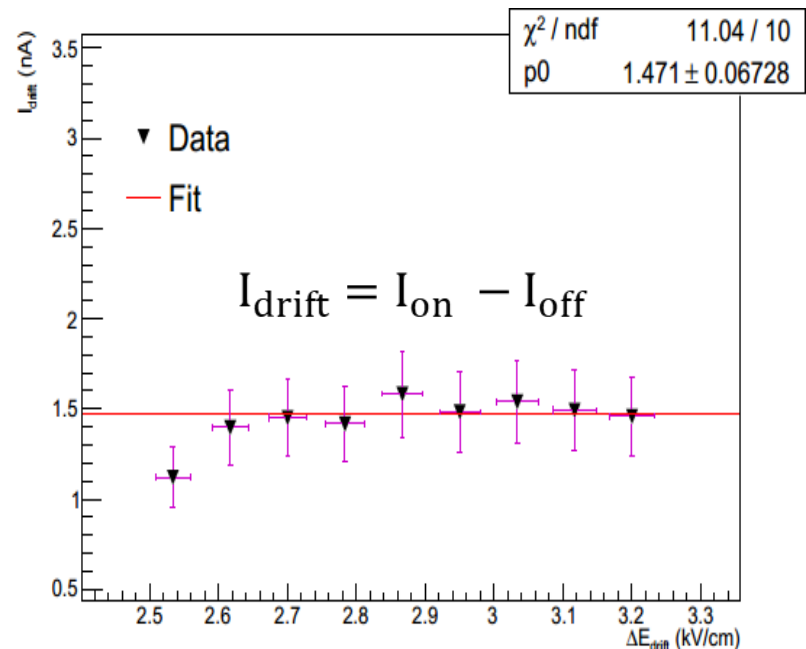

Figure 1
- Drift Current remains constant with increase in drift field E_{Drift} (Figure 1).